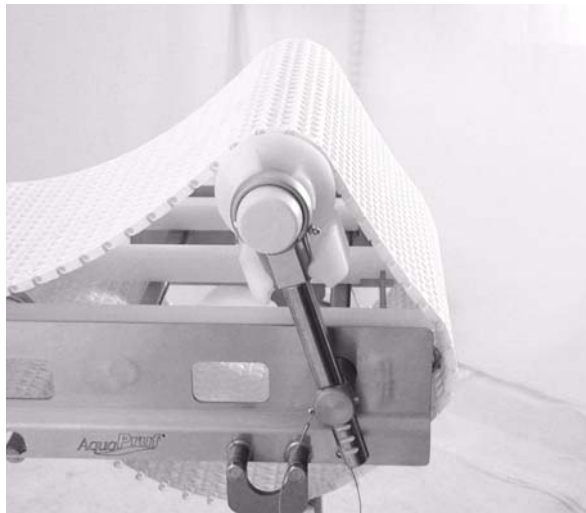

Figure 52
1. Tip up idler tail assembly (**Figure 52**).